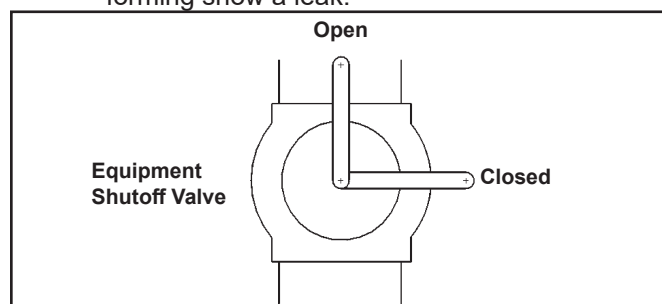

FIGURE 13
3. Check all joints from the propane/LP supply valve to equipment shutoff valve (see figure 13). Apply mixture of liquid soap and water to gas joints. Bubbles forming show a leak.
5. Check all joints from equipment shutoff valve to control valve (see figure 13). Apply mixture of liquid soap and water to gas joints. Bubbles forming show a leak.